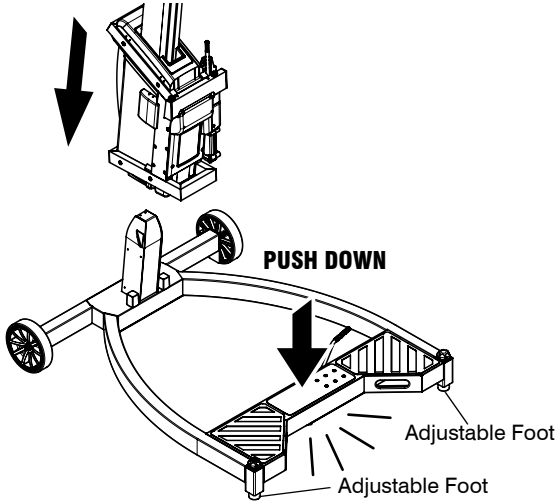

Figure 3-5. Carriage/mast to base mounting
2. Push down on the base frame's step plate until the swivel castor retracts and the base sits on the adjustable feet (Figure 3-5.). The machine now rests on the two rear wheels, and the two adjustable feet at the front.
Never force it into position (see Figure 3-5.).